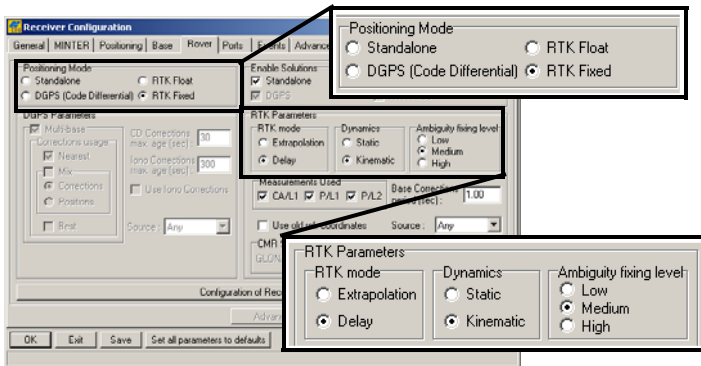

Figure 3-13. Rover Configuration
10. For the Rover receiver, click the *Rover* tab and set the following parameters, then click **Apply** (Figure 3-13 on page 3-17).